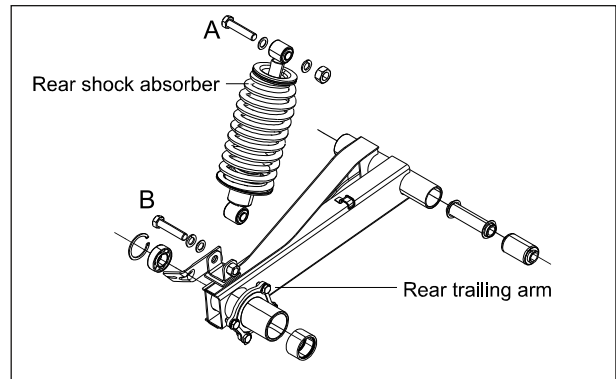

Fig. 5.73
- Loosen and remove 1 no. Hexagonal bolt (M12x1.75x55) from bottom mounting of shock absorber, along with a punched washer, wave spring washer from trailing arm complete rear. (B) (Fig. 5.73)
- Loosen and remove 1 no. Hexagonal bolt (M12x1.75x55) from top mounting of shock absorber , along with a punched washer, wave spring washer from trailing arm complete rear. (A) (Fig.5.73)